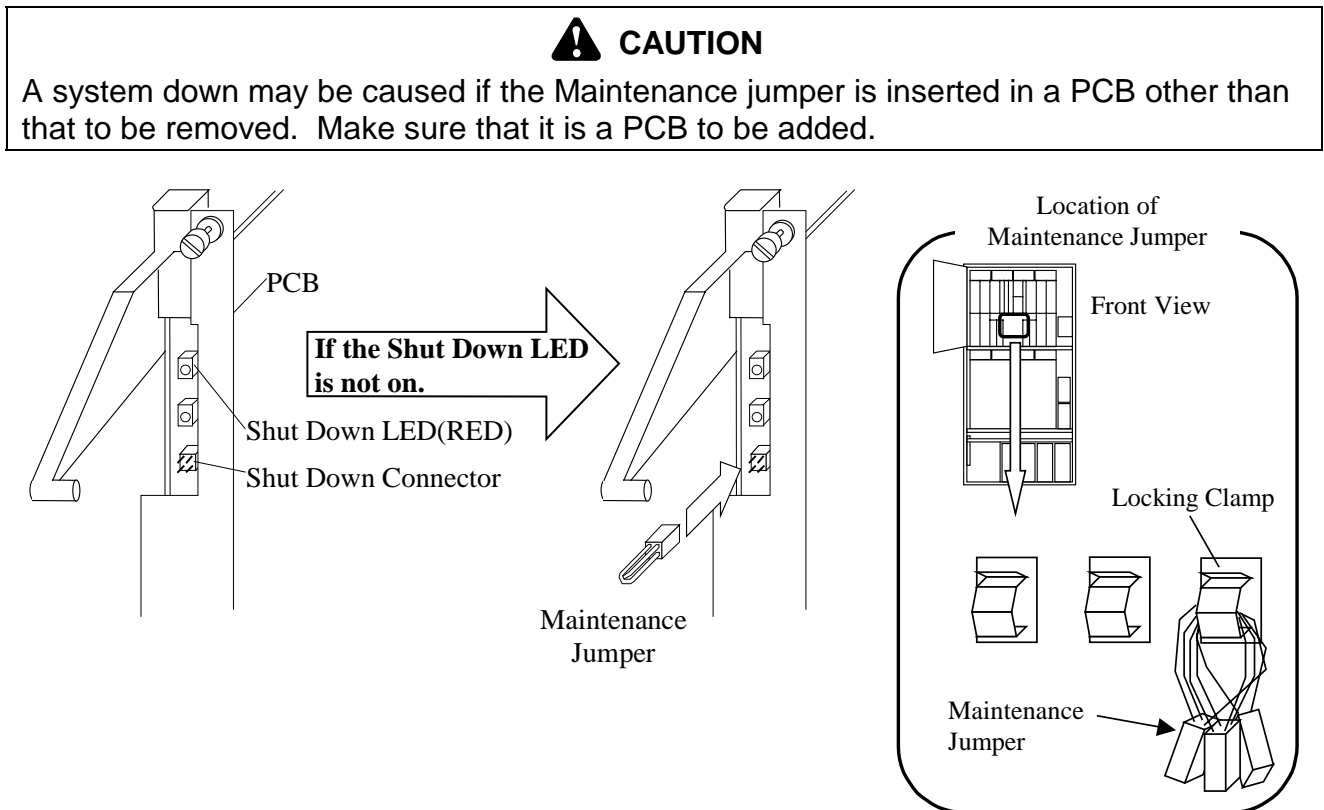

Fig. 3.7.2-1 Location of the Shut Down LED
- a. While referring to Fig. 3.7.2-1 and Table 3.7.2-2, check the Shut Down LED on the Cache Memory PCB. Connect the Maintenance Jumper to the Shut Down Connector if the Shut Down LED is not on. (This procedure [3-1 a.] is not valid for a New Installation.)